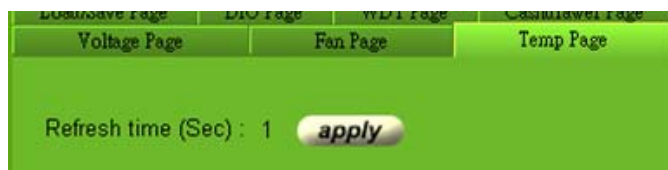

Figure 8-14: Temperature Refresh Time Setting
- Step 2:** Entering a value beside the **Refresh time (Sec)** (Figure 8-14).
- Step 3:** Click apply (Figure 8-14).